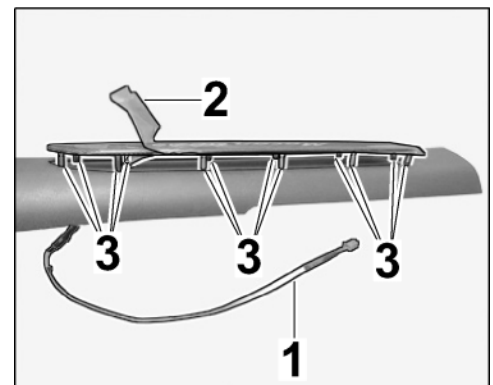

Figure 22
3.3.1 Pull protective film off the door entry guard (⇒ *Figure 22*).
Carefully guide tabs on the illuminated door entry guard into the mounting points on the (inner) door sill trim (⇒ *Figure 22*).